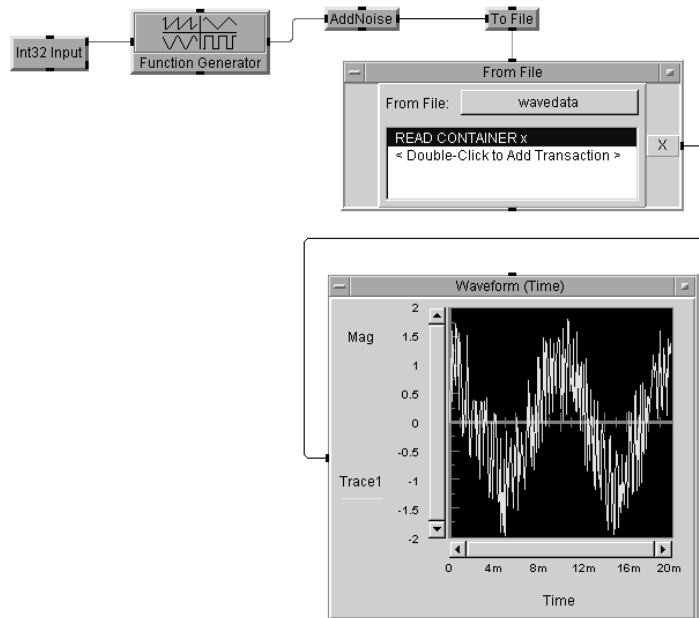

Figure 51 Adding a From File Object
AddNoise and the Waveform (Time) object, and connect the objects as shown in Figure 51. The sequence line between To File and From File ensures the data is written to the file before it is read.
- 7 Run the program. It should look similar to Figure 51. Save the program as **usobj-program.vee**.